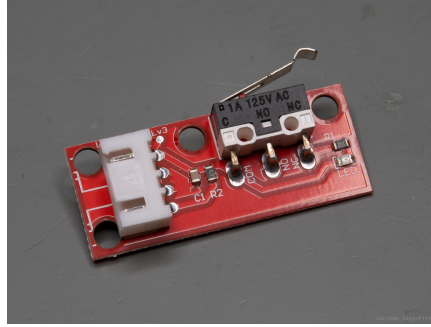

Figure 8: Typical limit switch module
If not this type (see, Figure 8)) of limit switch is used, the user has to make sure that the proper pull-up resistor is installed in the circuit of the limit switch. The unpressed limit switch should result in 3.3 V on the signal (S) pin of the limit switches and in addition to this, the signal pin should be connected to the ground via a 4.7 kOhm resistor.